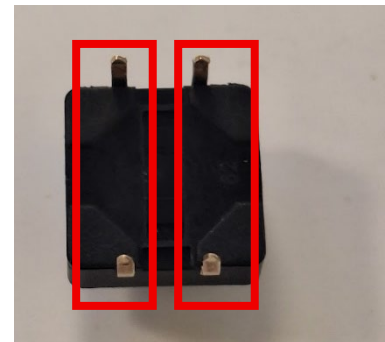

Figure 9: Pushbutton as seen from the bottom. The pins in the red boxes are always connected. When the button is pushed, all 4 pins are connected together.
- Now we want to read the status of the digital pin using the digitalRead() function. We will use the pushbutton as our external input. If you look at the bottom of the pushbutton, you will see 4 leads. Two sets of the leads are always connected. When the button is pressed, all 4 leads are connected together. See Figure 9.